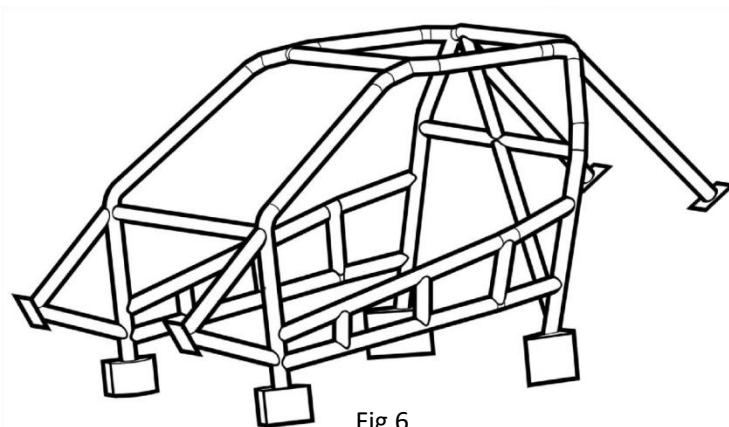

Fig.6
- C. Teams may also choose to install „NASCAR-STYLE" roll cage (recommended) inside the door (Fig.6) (2 horizontal crossbars and vertical supports) and extend into the outer skin of the door. In this configuration, the outer bands must also have at least three vertical tubular sections connecting the upper and lower rods.